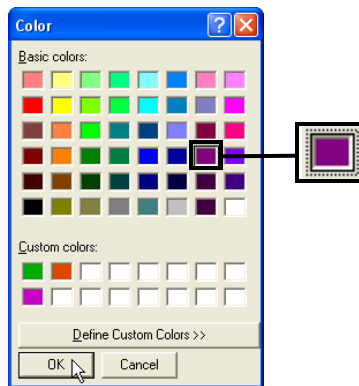

Figure 2-23. Select Layer's Color
2. Select a color from the **Color** dialog box and press **OK** (Figure 2-23 on page 2-19).